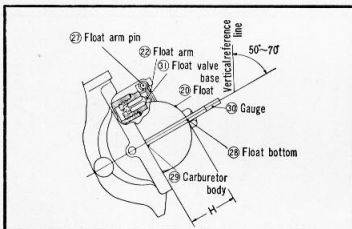

Figure 3-111. Fuel level adjustment
- (1) Position the carburetor as shown in Fig. 3-111 with the float arm pin 27 toward the top and the float 29 at the bottom and tilt the carburetor to the point where the float arm 28 is about to break contact with the float valve base. This should occur when the carburetor is tilted approximately 70° or at any point between 50° to 70° . That is, the float arm should be at a point where the base of the valve is not compressed.
- (2) In this position, the float bottom 33 is measured from the carburetor body 32 with the gauge 30 to determine the height (H). The tolerance of the float position is 1mm (0.040 in) both ways. In other words, the gauge should not press the float more than 1mm, nor should there be clearance greater than 1mm between the gauge and the float. Care should be exercised in making the measurement since the base of the valve is spring loaded and can be compressed into the valve in which case, the true closing point of the valve cannot be determined.